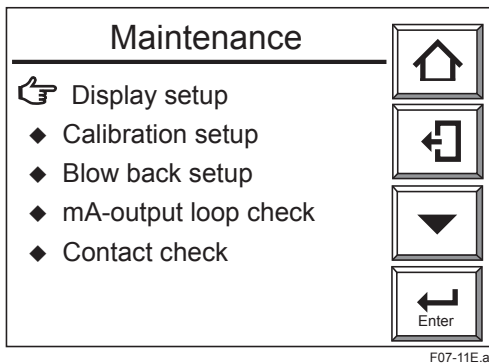
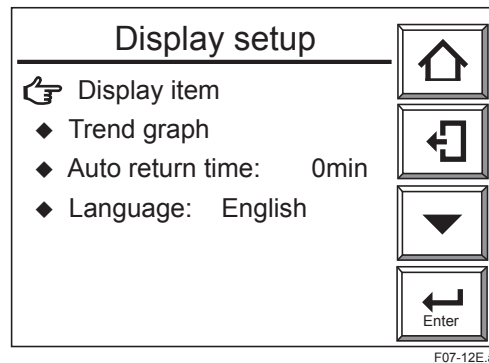

Figure 7.11 “Maintenance” Display
Figure 7.12 Display Setup
- (1) Press the [Setup] key in the Basic panel display to display the Execution/Setup display. Then select the “Maintenance” in the Execution/Setup display.
- (2) Select the “Display setup” in the Maintenance panel display (Figure 7.11). The Display setup display (Figure 7.12) then appears.